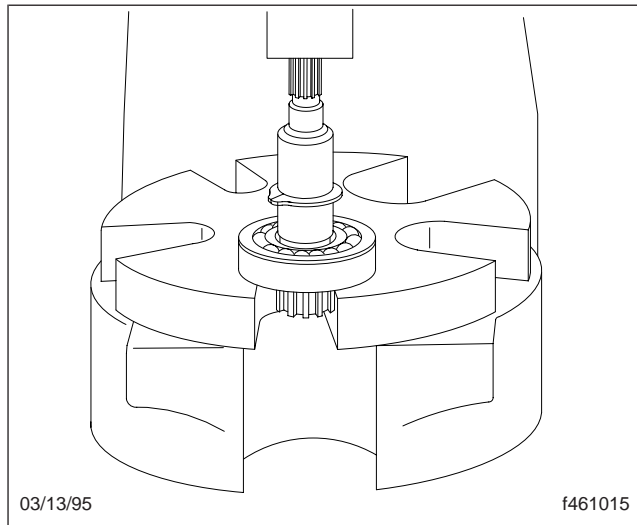

Fig. 26, Pressing the New Input Shaft
- 9.3 Press the new input shaft (from the small splined end) into the ball bearing until the shaft bottoms out on the retaining ring. See Fig. 26.